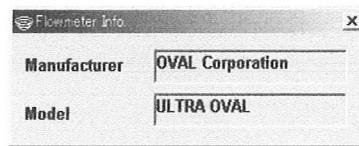

Fig.19
- ② You cannot rewrite any of these parameters here, however. Parameters may be changed at "Menu: Configure". For information about individual parameters, see the instruction manual for the flowmeter.
- ③ To hide the message box, click on  in the top right corner of the screen.
- ① Click on "View (V)" at top-level menu of the screen, select "Flowmeter info. (T)" and click on again.
- ② A message box as shown in Fig. 19 appears, indicating the flowmeter information.